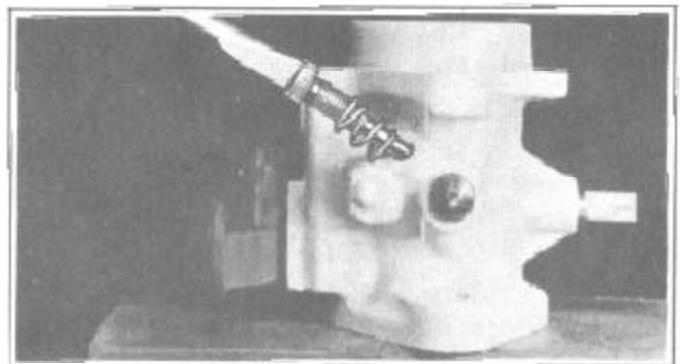

FIGURE 34
8. Install idle adjustment screw and spring, Figure 34. Back out from seated position 1/2 to 1-1/2 turns. (Make final adjustment after installation.)